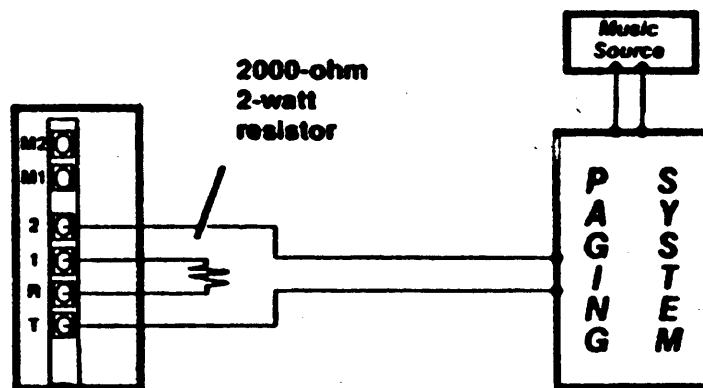

Figure 4
4. Connect the resistor to the cartridge by wrapping one wire from the resistor clockwise around the R terminal and the second wire clockwise around the 1 terminal (Figure 4).